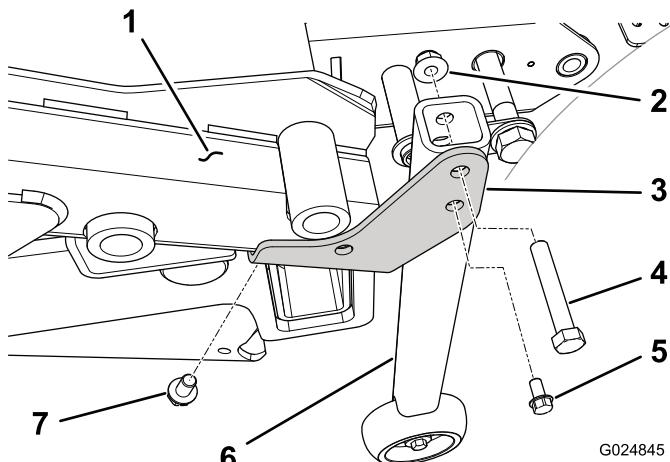

Figure 34
3. On traction units that have a serial number greater than 313000001, install a conversion bracket (right or left hand) to the under side of the appropriate rear corner of the deck frame with a 3/8 x 5/8 inch self-tapping screw (Figure 34). The bracket is to point toward the end of the rear frame.
4. Install the vertical tube support assembly to the conversion bracket (right or left hand) on each corner of the deck frame with a 3/8 x 2-1/4 inch screw and 3/8 inch flange nut (Figure 34).